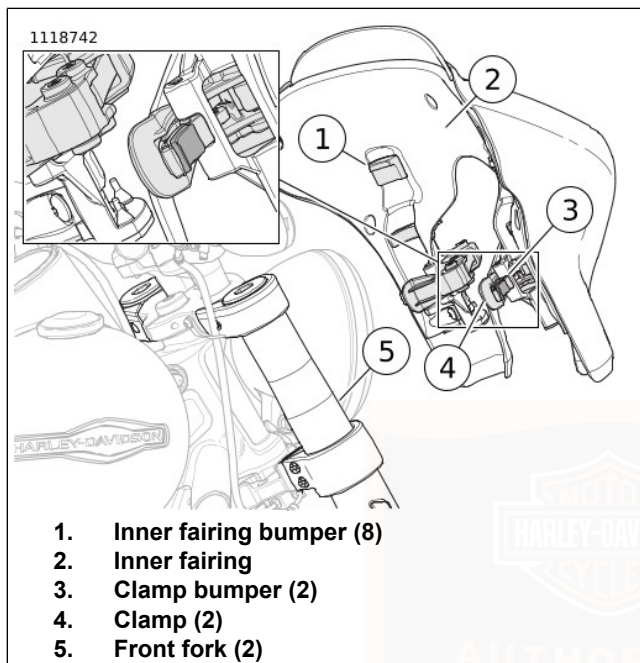

Figure 54. Fairing Clamps
1. See Figure 54. Inspect fairing.
- Verify inner fairing bumpers (1) and clamp bumpers (3) are in place, clean, and in good condition.
- Open and close clamps (4) to verify they are in working order.